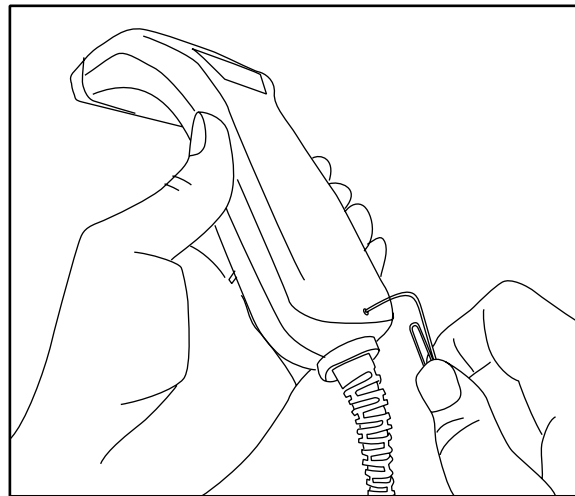

Figure 4
2. Are all cables properly connected and in good condition (not kinked, frayed, etc.)? If you need to disconnect/reconnect the I/F cable from the scanner, insert a the tip of a paper clip into the cable release hole shown in Figure 4. Push the clip in to depress the connector latch and release the cable. To reconnect the cable, orient the cable with its connector inside the scanner handle and press it in firmly to seat and latch securely in place.